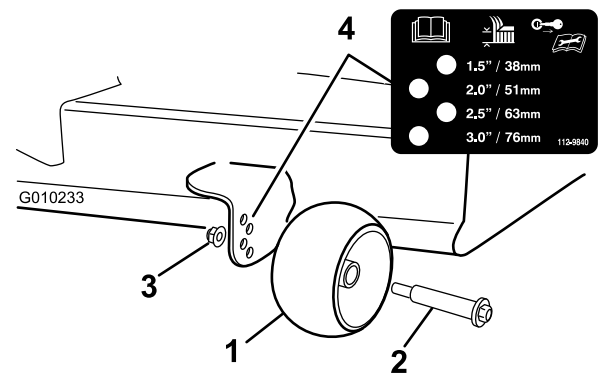

Figure 26
3. Adjust the anti-scalp rollers (Figure 26) to match the closest height-of-cut position.